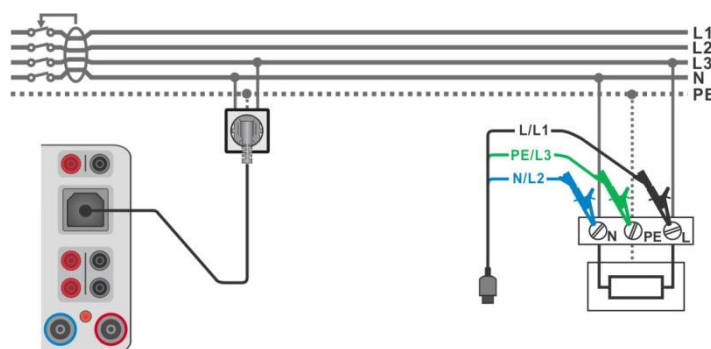

Figure 6.73: Connection of Plug test cable or 3-wire test lead
- Connect 3-wire test lead or Plug test cable to the object under test, see **Figure 6.73**.